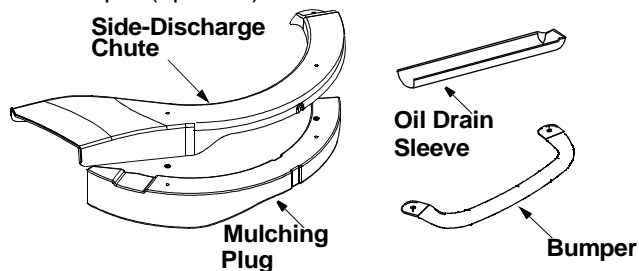

Figure 1
- Remove loose parts from the grass catcher and/or the crate very carefully. Refer to Figure 1.
1. Operator's manual (not shown in Figure 1)
4. Ignition keys (not shown in Figure 1)